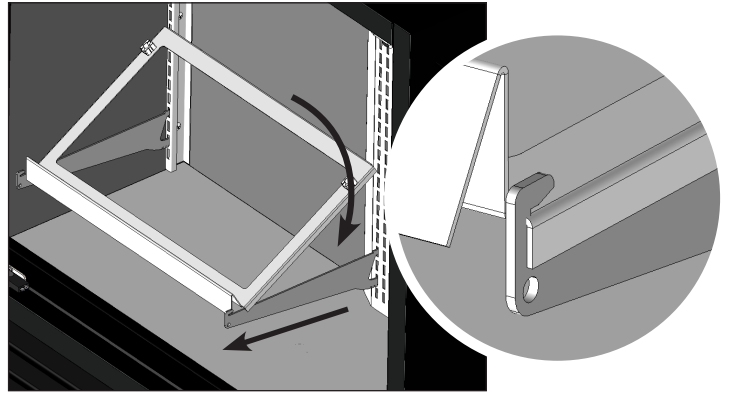

Fig. 7. Position the shelf while lifting the back of the shelf. Be sure the sides of the shelf hang over the bracket.
2. Lift the back of the shelf up. Position the shelf over the shelf support brackets. See fig. 7.
3. Carefully lower the back of the shelf support and slide the shelf under the shelf support tab. See fig. 7.